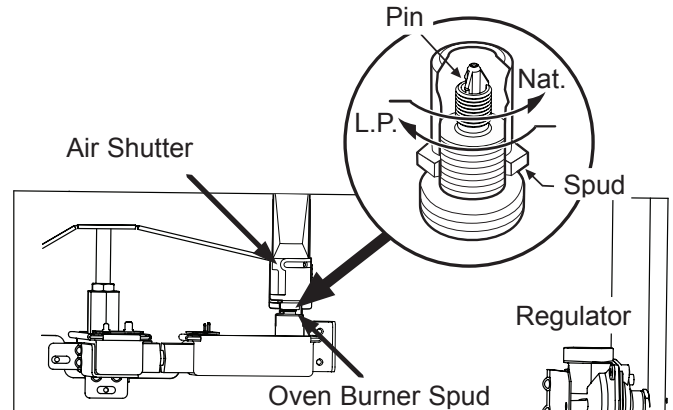

Figure 11
B. Adjust Oven Burner Orifice (see Figure 11)